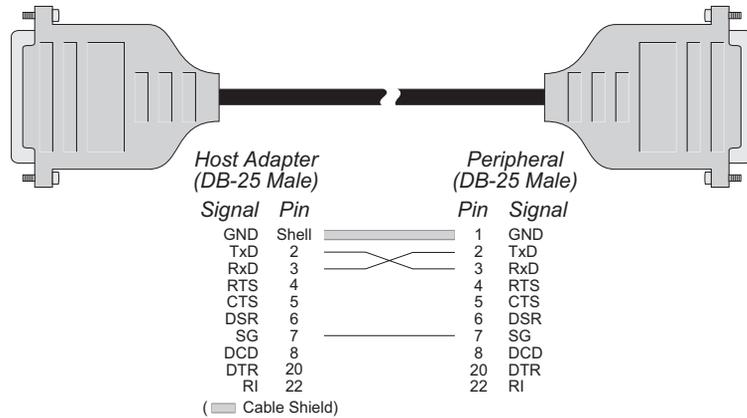

FIGURE 4-2 Simple Terminal/Printer Cable
- FIGURE 4-2 Simple Terminal/Printer Cable 11
The cable shown in FIGURE 4-2 is a three-wire null modem cable—that is, Transmitted Data on one end of the cable is connected to Received Data at the other end, and vice versa.